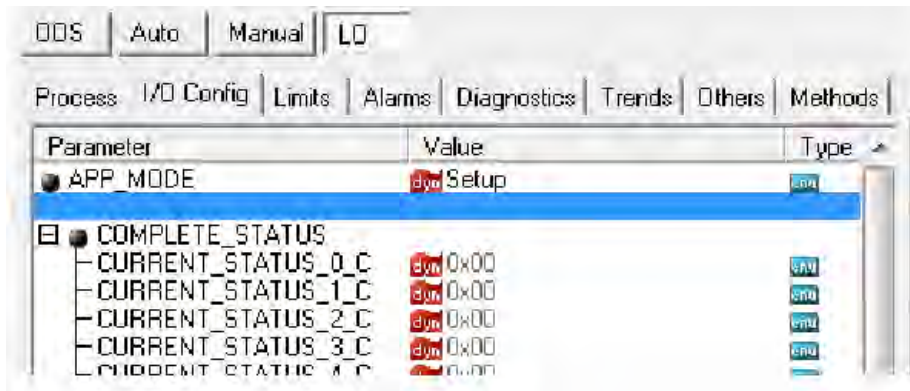

Figure 109 86.APP_MODE Parameter
4. Observe the state of the display/position control by reading 86.APP_MODE parameter – it should have a value of *Setup* (Figure 109).